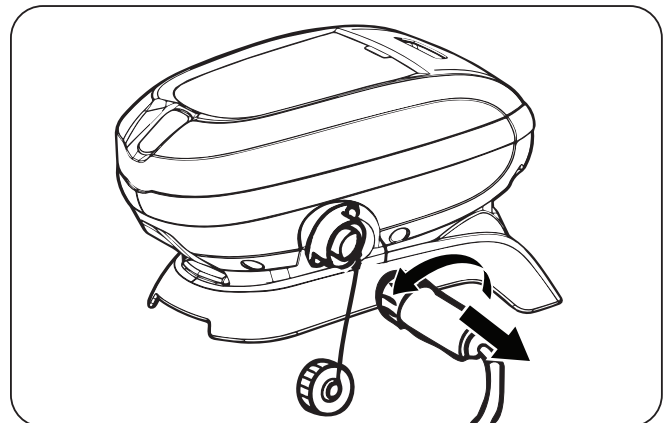

Figure 17. Unplug the Floating Cable
3. Unplug power to the cleaner at the control unit (Figure 17).